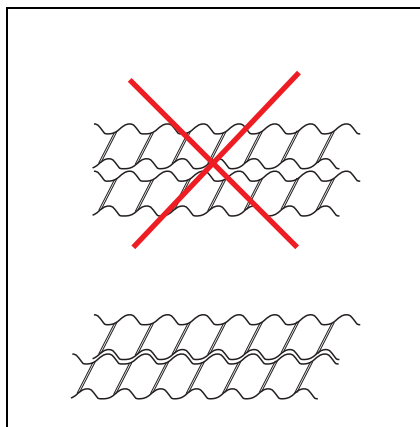

Fig. 7.4 Positioning the screws
3. Turn the twin screws so that the helices of the one screw move in the gaps of the helices of the other screw (see Fig. 7.4).